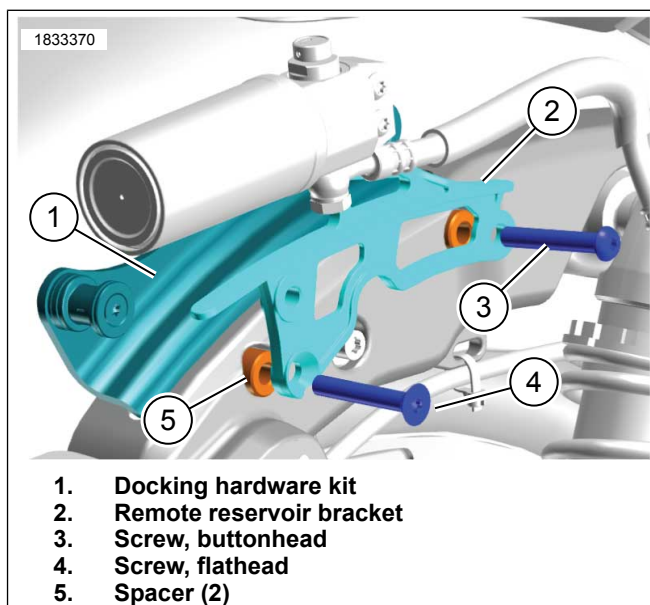

Figure 3.
2. See Figure 3. Install spacers (5).